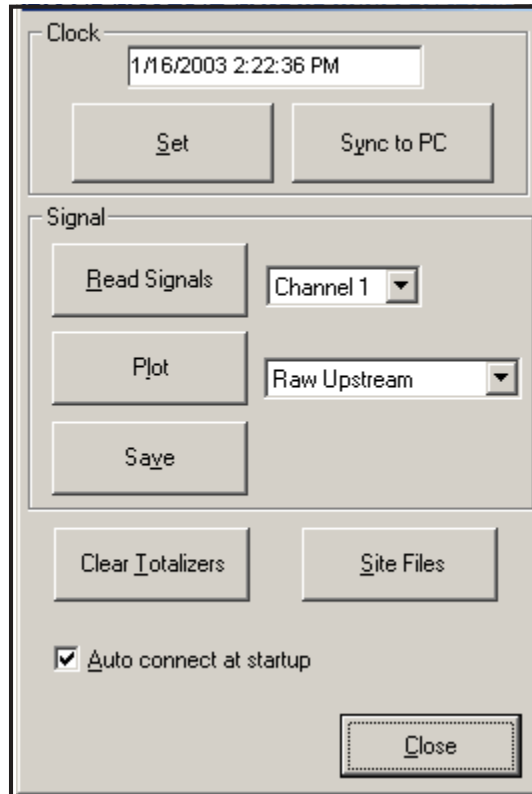

Figure 27: Active Signal Options
1. Click on the *Read Signals* button. (If the meter is a multi-channel instrument, open the Channel drop-down menu and click on the desired channel.) After a moment, the *Properties* window appears similar to Figure 27.